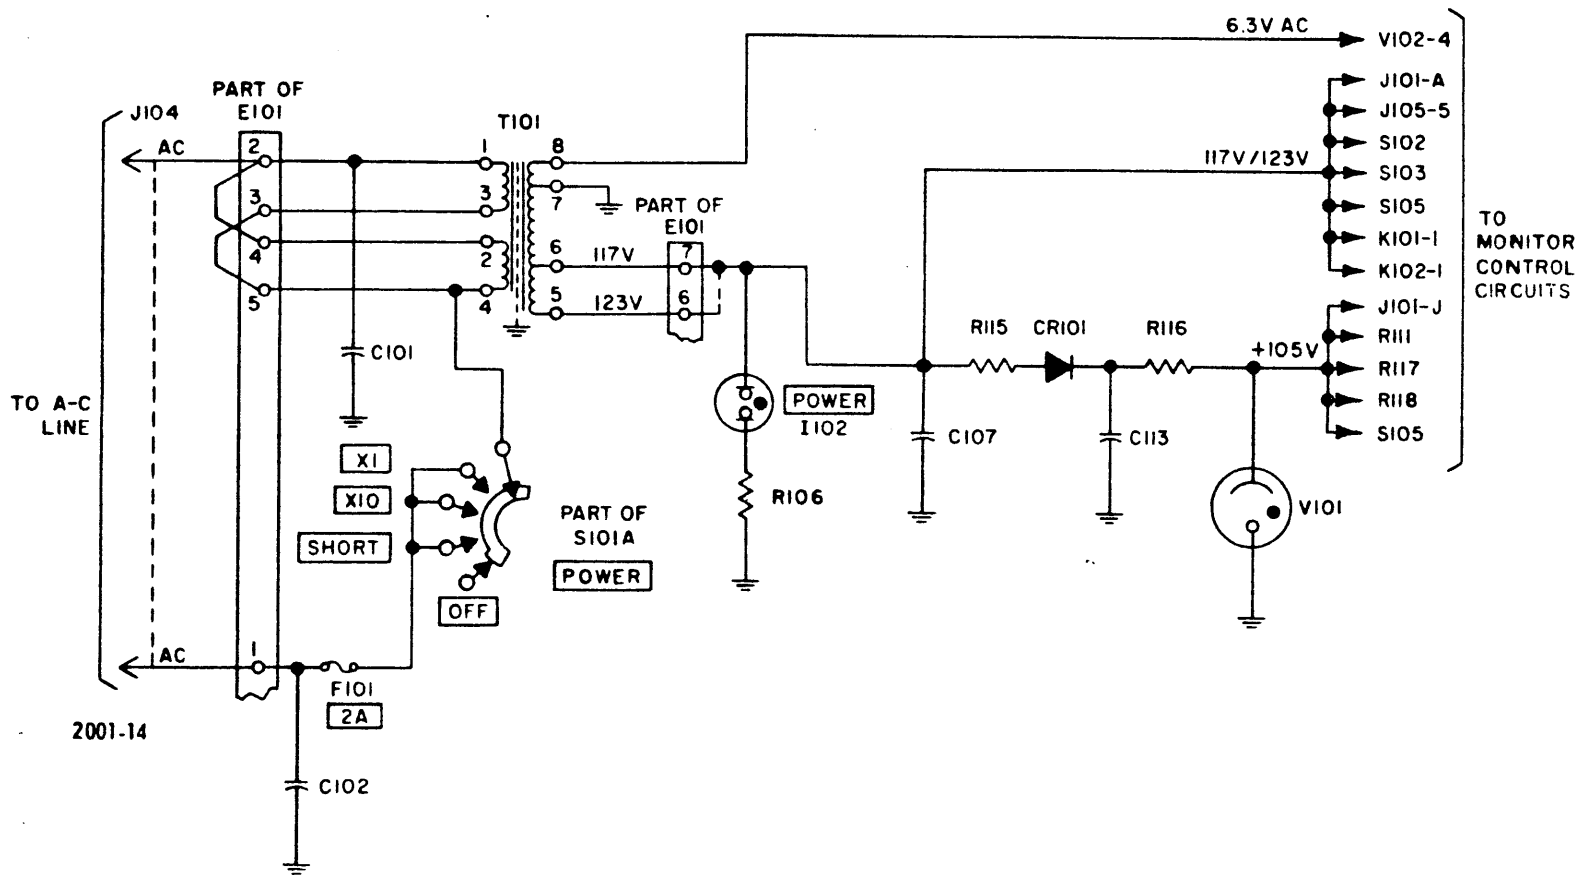

Figure 4-6. Power Supply Circuit, Simplified Schematic Diagram
a. POWER SUPPLY CIRCUIT. - The power supply circuit, Figure 4-6, provides operating voltages for the circuits in the monitor control and antenna tuner. The circuit operates on 115- or 230- volt ac, 60-cycle, single phase power.